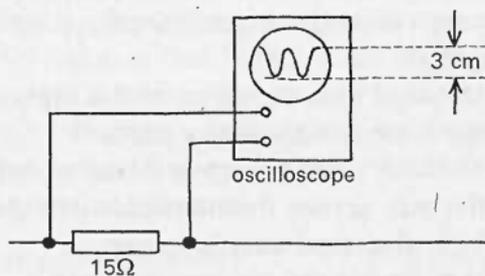

Figure 56
**35** In figure 56, the oscilloscope's Y-sensitivity is set at  $1 \text{ V cm}^{-1}$ .